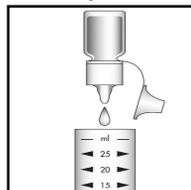

Figure 2
2. Add 2 drops of A-1500 Stabilizer Solution (fig 2). Stir to mix the contents of the cup.